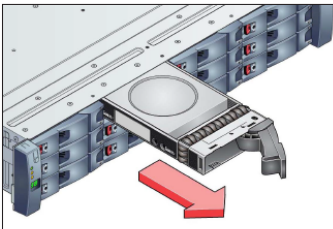

Figure 3: Removing a drive module (2)
- Withdraw the module from the drive bay (see Figure 3).